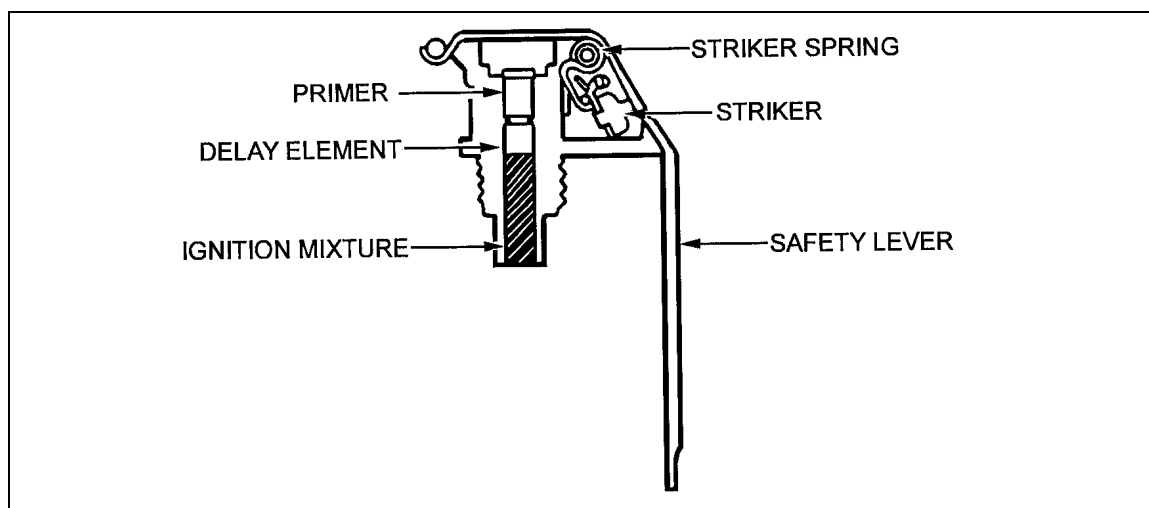

Figure 1-5. M201A1 fuze.
b. **Igniting Fuze.** Igniting fuzes are designed for use with chemical hand grenades. They burn at high temperatures and ignite the chemical filler. The M201A1 (Figure 1-5) is designed for use with the AN-M83HC white smoke grenade, the AN-M14 TH3 incendiary grenade, and the M18 colored smoke grenade. This fuze is interchangeable with any standard firing device. The time delay element is a powder train requiring 1.2 to 2 seconds to burn to the igniter. The igniter ignites the filler or a pyrotechnic starter with a violent burning action and expels the filler from the grenade body.